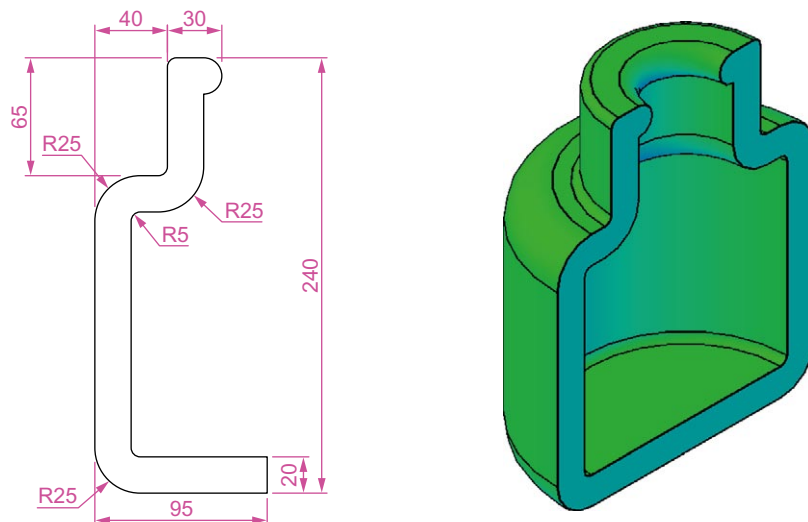

Fig. 12.22 Third example – Revolve. The outline to be revolved and the solid of revolution
Third example – Revolve (Fig. 12.22)
3. Construct the pline (left-hand drawing of Fig. 12.22). The drawing must be either a closed pline or a region.
The result is shown in Fig. 12.22 (right-hand drawing).